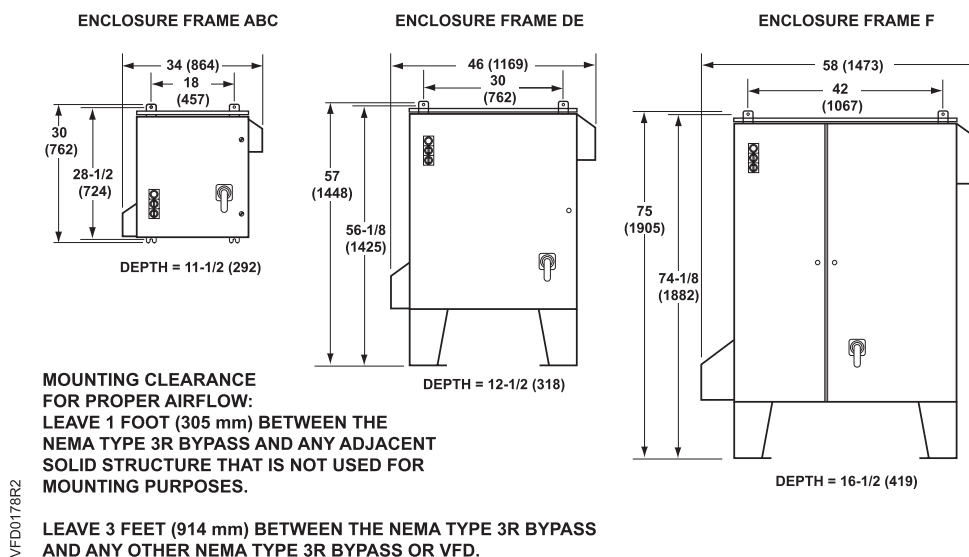

Figure 3. NEMA Type 3R Bypass Dimensions in Inches (Millimeters).
- See Figure 3 for dimensions and see Table 1 for approximate weights.